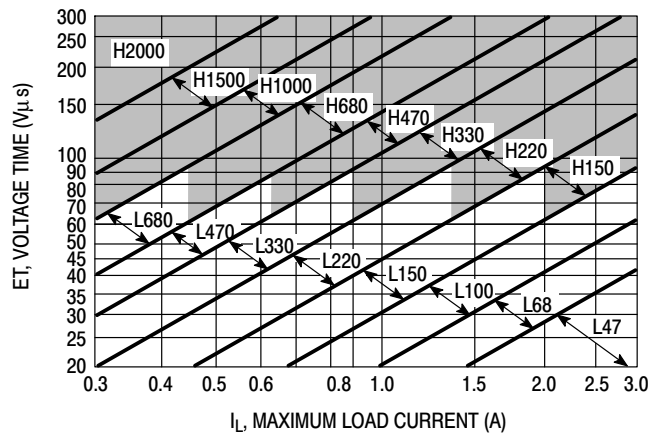
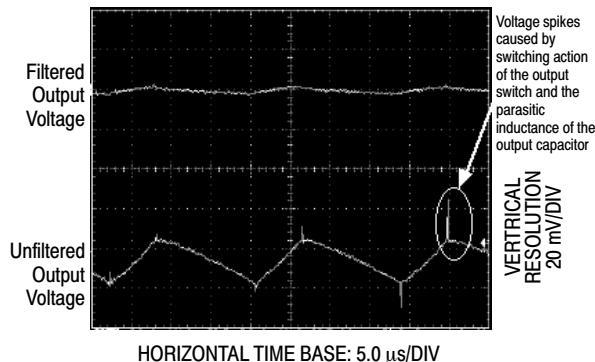

Figure 22. LM2576-ADJ
Figure 25. Output Ripple Voltage Waveforms
4. Inductor Selection (L1) A. Use the following formula to calculate the inductor Volt x microsecond [V x μs] constant: $E \times T = \left(V_{in} - V_{out} \right) \frac{V_{out}}{V_{in}} \times \frac{10^6}{F[\text{Hz}]} \text{ [V x } \mu\text{s]}$ B. Match the calculated E x T value with the corresponding number on the vertical axis of the Inductor Value Selection Guide shown in Figure 22. This E x T constant is a measure of the energy handling capability of an inductor and is dependent upon the type of core, the core area, the number of turns, and the duty cycle. C. Next step is to identify the inductance region intersected by the E x T value and the maximum load current value on the horizontal axis shown in Figure 25. D. From the inductor code, identify the inductor value. Then select an appropriate inductor from Table 2. The inductor chosen must be rated for a switching frequency of 52 kHz and for a current rating of $1.15 \times I_{Load}$. The inductor current rating can also be determined by calculating the inductor peak current: $I_{p(\text{max})} = I_{Load(\text{max})} + \frac{(V_{in} - V_{out}) t_{on}}{2L}$ where t_{on} is the "on" time of the power switch and $t_{on} = \frac{V_{out}}{V_{in}} \times \frac{1.0}{f_{osc}}$ For additional information about the inductor, see the inductor section in the "External Components" section of this data sheet.	4. Inductor Selection (L1) A. Calculate E x T [V x μs] constant: $E \times T = (25 - 8.0) \times \frac{8.0}{25} \times \frac{1000}{52} = 80 \text{ [V x } \mu\text{s]}$ B. E x T = 80 [V x μs] C. $I_{Load(\text{max})} = 2.5 \text{ A}$ Inductance Region = H150 D. Proper inductor value = 150 μH Choose the inductor from Table 2.
The regulator output voltage may also contain short voltage spikes at the peaks of the sawtooth waveform (see Figure 25). These voltage spikes are present because of the fast switching action of the output switch, and the parasitic inductance of the output filter capacitor. There are some other important factors such as wiring inductance, stray capacitance, as well as the scope probe used to evaluate these transients, all these contribute to the amplitude of these spikes. To minimize these voltage spikes, low inductance capacitors should be used, and their lead lengths must be kept short. The importance of quality printed circuit board layout design should also be highlighted.
In order to minimize the output ripple voltage it is possible to enlarge the inductance value of the inductor L1 and/or to use a larger value output capacitor. There is also another way to smooth the output by means of an additional LC filter (20 μ H, 100 μ F), that can be added to the output (see Figure 34) to further reduce the amount of output ripple and transients. With such a filter it is possible to reduce the output ripple voltage transients 10 times or more. Figure 25 shows the difference between filtered and unfiltered output waveforms of the regulator shown in Figure 34.